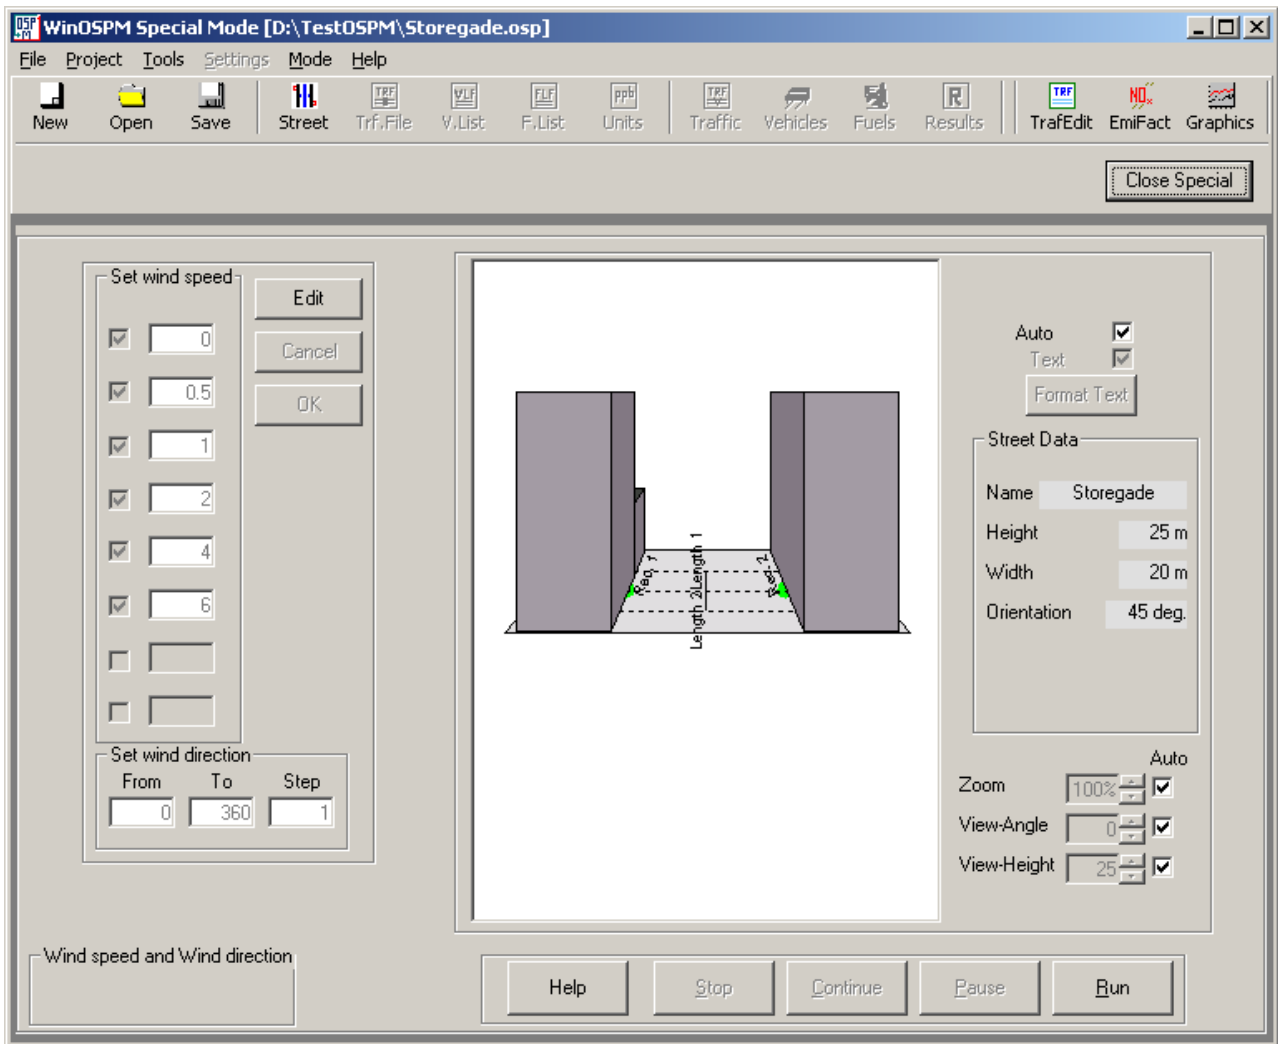
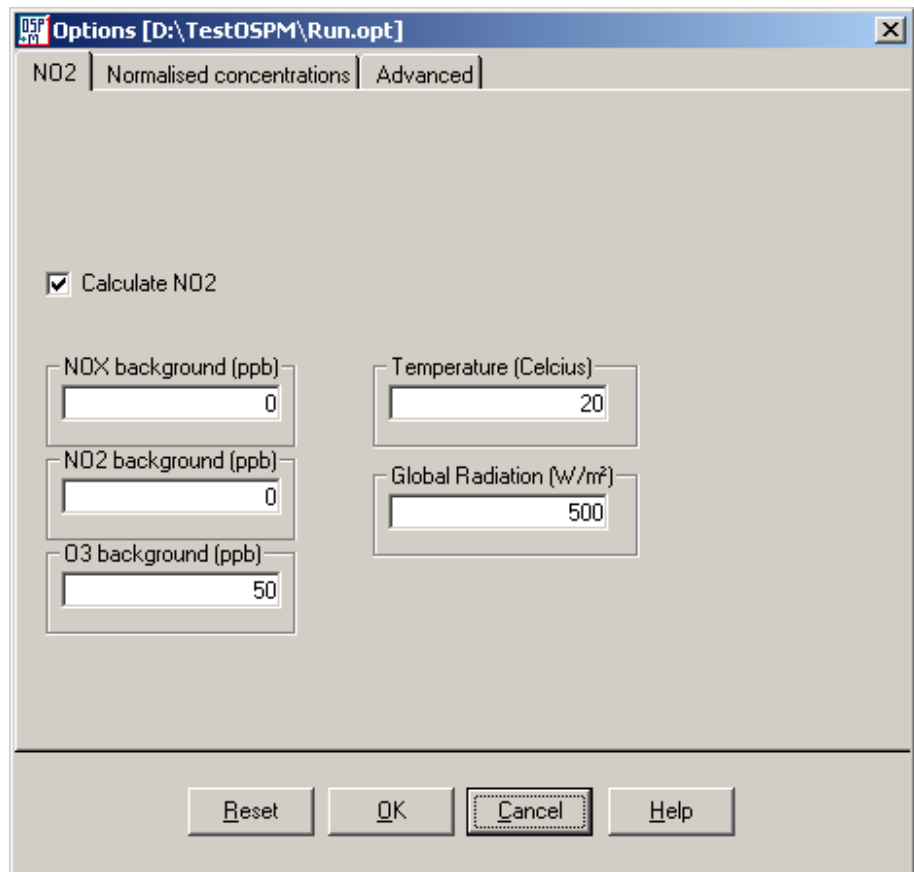

Fig. 13.2 Special Mode window.
Fig. 13.5 The parameters that have effect for calculations of NO₂ in the Special Mode can be changed using this Options sheet.
Next, click the button "*Set Street Configuration*" and specify the street geometry. The user is brought to the "Special Mode" window after clicking **OK** (Fig. 13.2).
Alternatively, Special Mode can be activated within an existing project (2). From the Calculation window press the button **Start Special** or use the menu **Mode** and choose **Special**. The Special Mode window is shown in Fig. 13.2.
The results are not shown automatically when the calculations are finished. The contents of the “ospmout.dat” file can be viewed after pressing the button **Results** (Fig. 13.2).
In order to view a graphical presentation of the results, the user has to press the button **Graphics** (Fig. 13.2), which opens the **Graphics Window**. An example of the graphics, which can be displayed in this window, is shown in Fig. 13.4. The user can navigate between several charts using the menu item **Window**, which also provides the facility to cascade the charts and to tile them horizontally or vertically.
Various settings that affect calculations of NO₂ in the Special Mode can be changed using the Options sheet "NO2" (Fig. 13.5). This Option Sheet is available when in the Special Mode from the menu item **Project / Options** (Fig. 13.2).